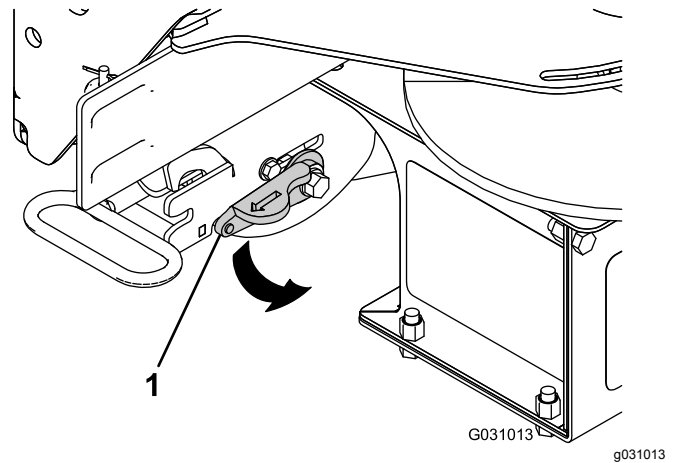

Figure 21
2. Rotate the locking lever on the RT3 attachment to the Lock position (Figure 21).